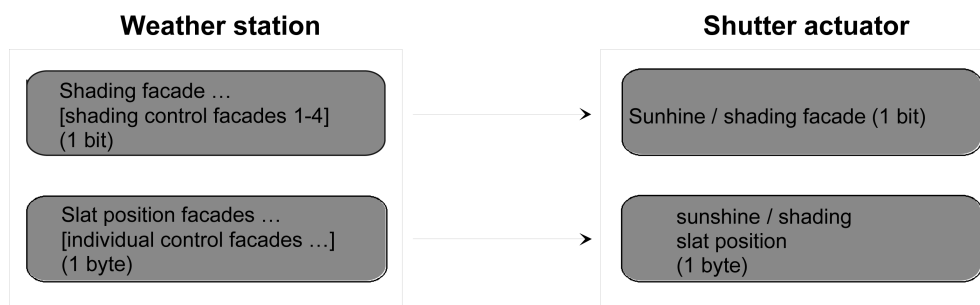

Figure 29: Programming of the communication objects for application example III
- fixed blind position setting.(figure 29)